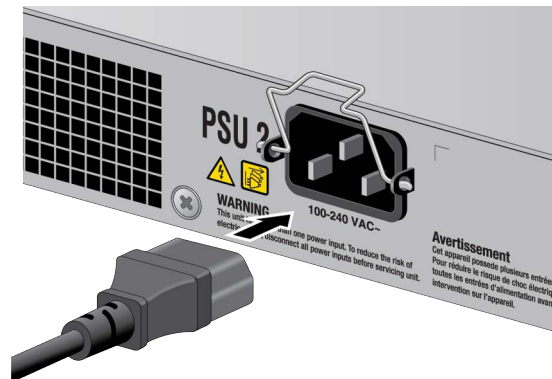

Figure 29. Connecting the AC Power Cord
3. Plug in the AC power cord. See Figure 29.